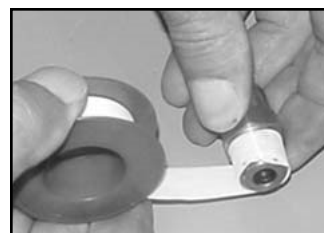
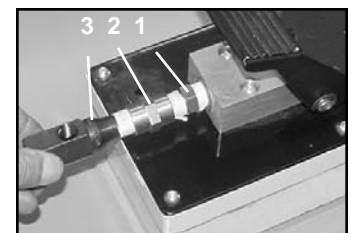

Figure 3
Figure 4
- 1 Apply teflon tape to threads of all fittings making certain it does not obstruct the flow of hydraulic oil. Figure 3 shows application of tape to restrictor orifice. Then secure restrictor orifice, 3/8 inch coupler and pressure gauge tee to foot pump's hydraulic output port. (See Figure 4.)